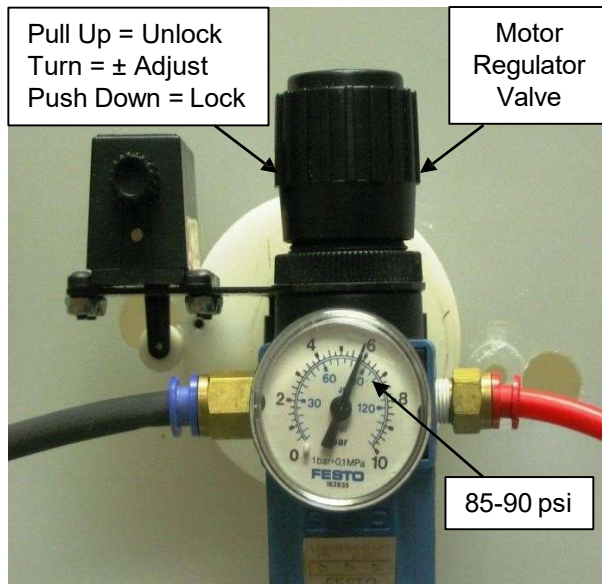

Figure 5
8.3.2 Sometimes the Air Motor Pressure will begin to decline during a blowing operation. The Motor Regulator Valve can be adjusted to return to the 60-65 psi range. To make this adjustment, carefully lift valve handle to unlock it, turn until desired pressure is observed on adjacent pressure gauge, and then push down valve handle to lock. This adjustment can be made during blowing operations while the Air Motor is running. **See Fig. 5.**